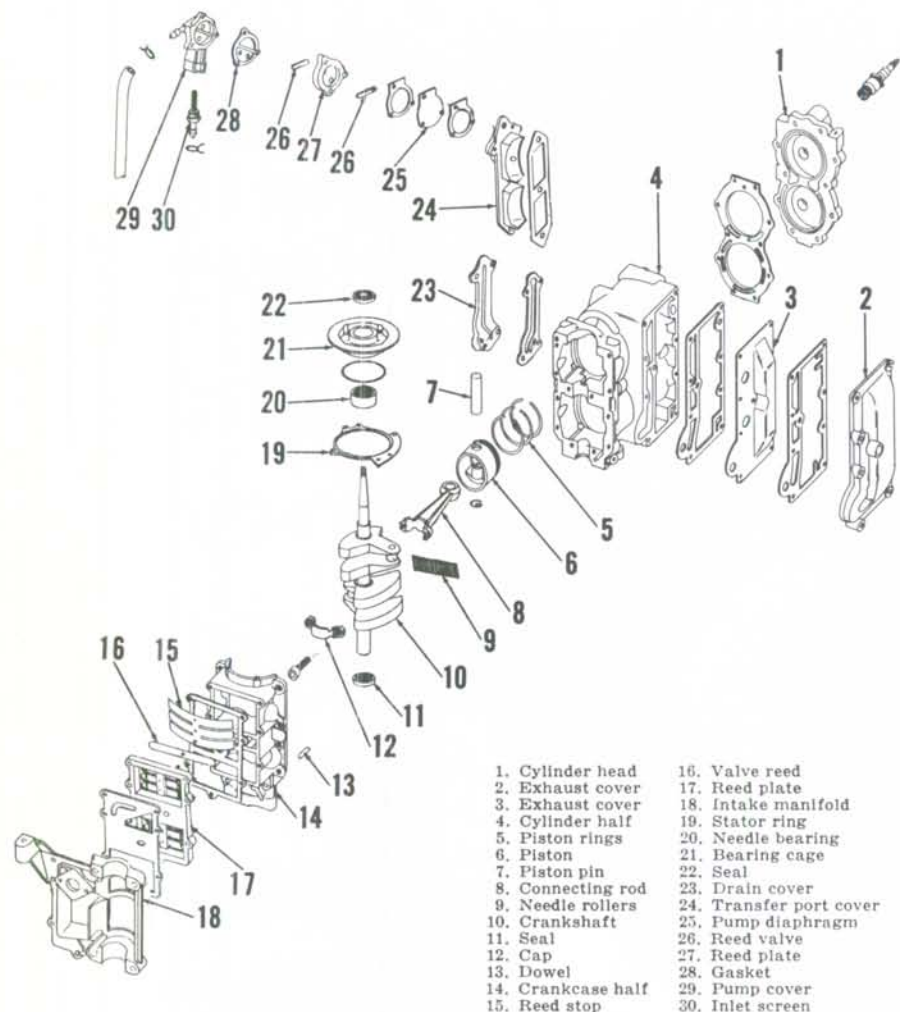

Fig. WB16 — Exploded view of power head and associated parts.
Remove the screws which secure the power head assembly to lower unit, and lift off the power head assembly. Refer to Fig. WB16.
The crankshaft upper main bearing is a part of bearing cap (21—Fig. WB16) on all except 1965 models which have a renewable needle bearing (20). Center and lower main bearings consist of bronze bushings cast into the crankcase housing; then align reamed. Recommended diametral clearance is 0.0025-0.0035 for the center bearing and 0.0015-0.0025 for the lower.